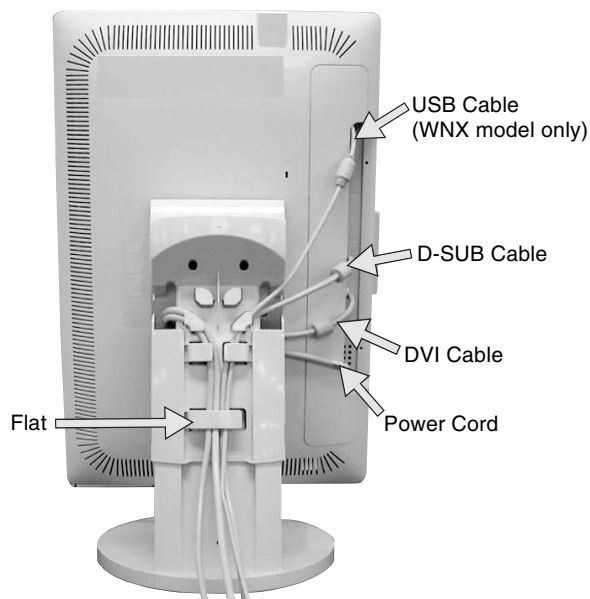

Figure C.6
8. For successful cable management, place the cables into the cable management in this order: Power cord and DVI cable (**Figure C.6**).
9. Place DVI and Power cord into the specific hooks, as indicated in **Figure C.6**.
10. Place the D-Sub and the USB cable into the specific hooks, as indicated in **Figure C.6** (USB Cable: WNX model only).
12. Make sure all cables are resting flat against the stand (**Figure C.6**).